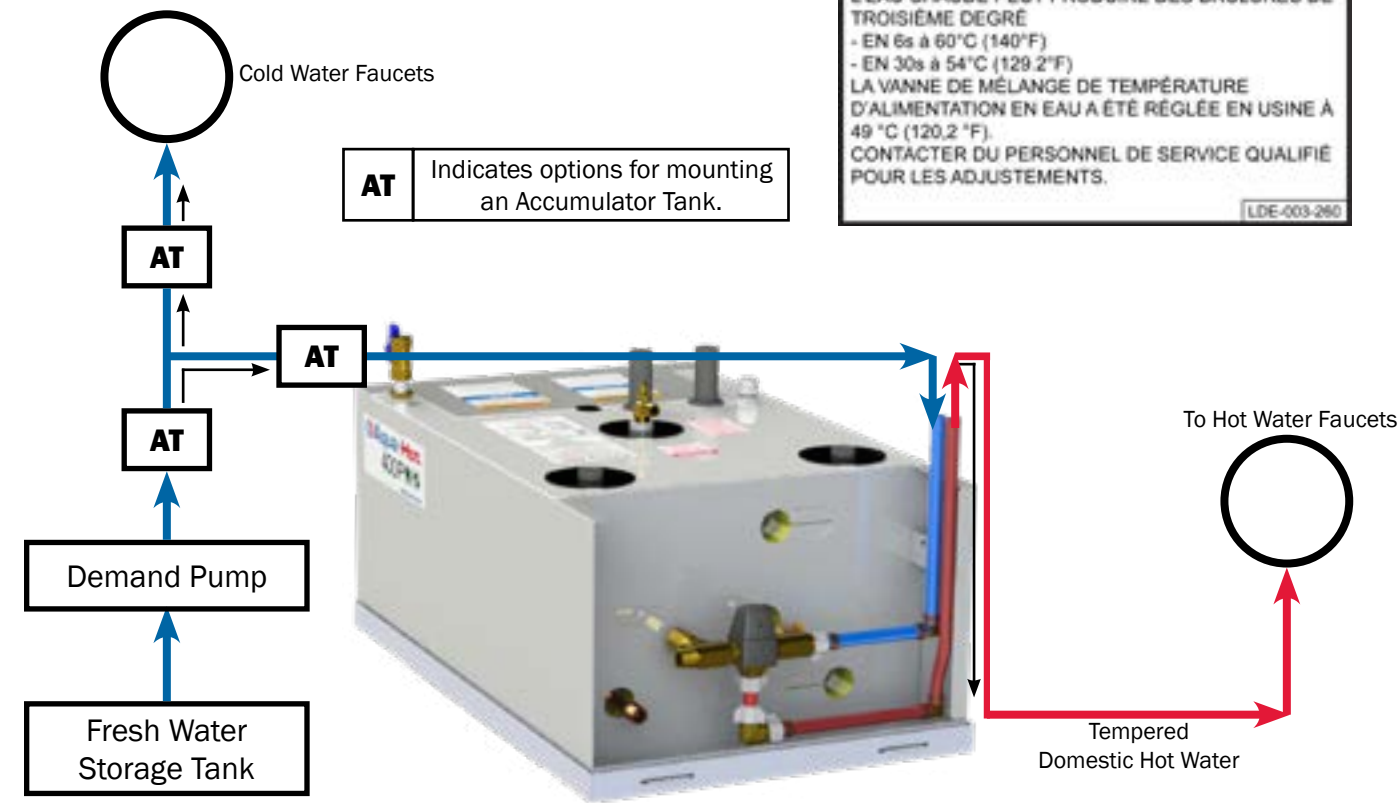

Figure 42
- Plumb the domestic water system according to Figure 42.
Please note it may be necessary to utilize an accumulator tank within the domestic water system. Reference Figure 42. Although the 400P is equipped with a pressure relief valve, the use of an accumulator tank will help prevent excessive “weeping” of the valve. Manufactured pressure relief valves will cause the “seat” in the valve to deteriorate, which can cause the valve to fail permanently. Be sure to reference the RVIA’s (Recreational Vehicle Industry Association) technical publication titled “Recreational Vehicle Plumbing Systems”. To obtain a copy of this publication, contact RIVE at (730) 620-6003 or visit them online at www.rvia.org.